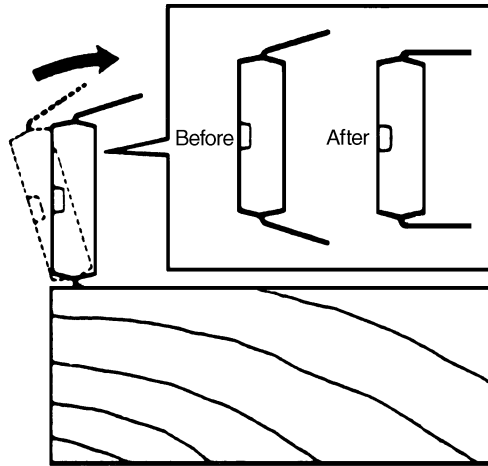

Figure 3-1 Straightening the Pins
5. Straighten the pins on the PROM by holding each side against a flat surface and pressing the pins gently (Figure 3-1).